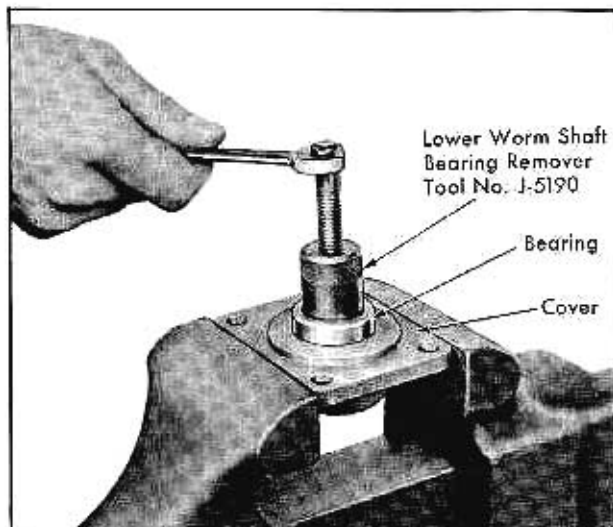

Fig. 7-28 Removing End Cover Roller Bearing
2. Using Puller, Tool No. J-5190, remove roller bearing from end cover. Fig. 7-28.